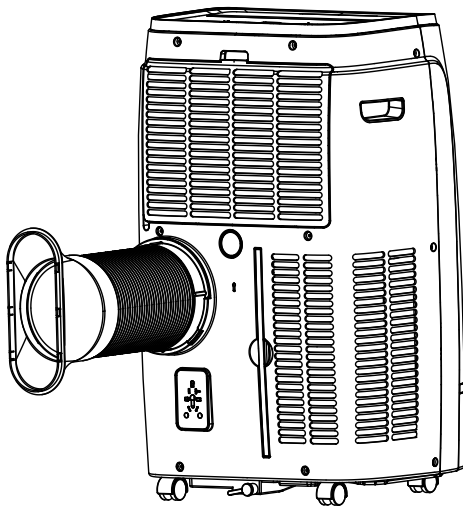

Fig.1
1. Connect the flat fitting to the hose, extend the hose as maximum (1,5 mt) for reaching the outside and it connect to the back of the air conditioner. (Fig.1)
1. To make the hole in the glass it is advisable to take the porthole kit accessory to the glazier (Fig. 1)
(Fig. 1)